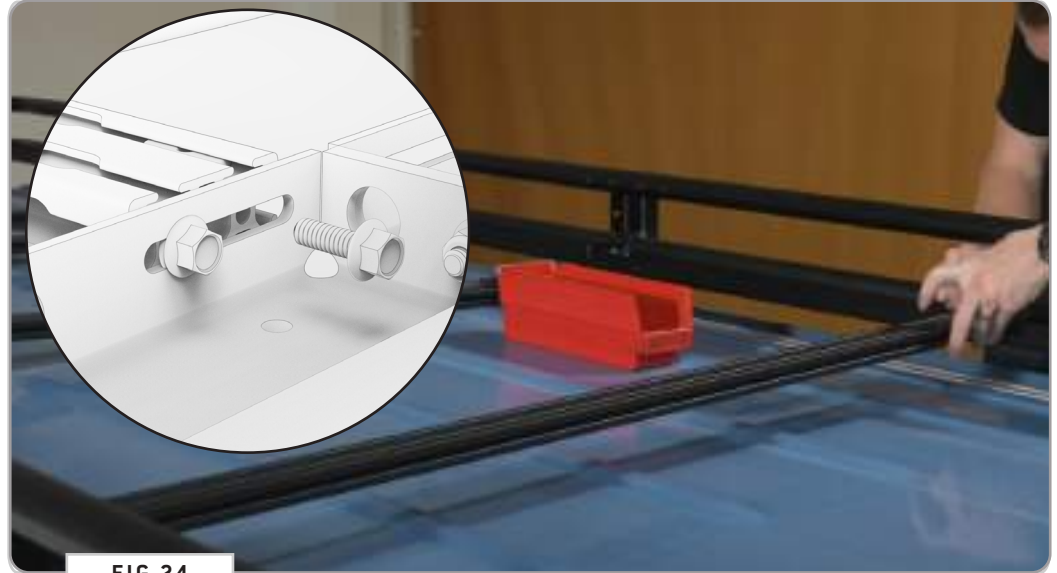
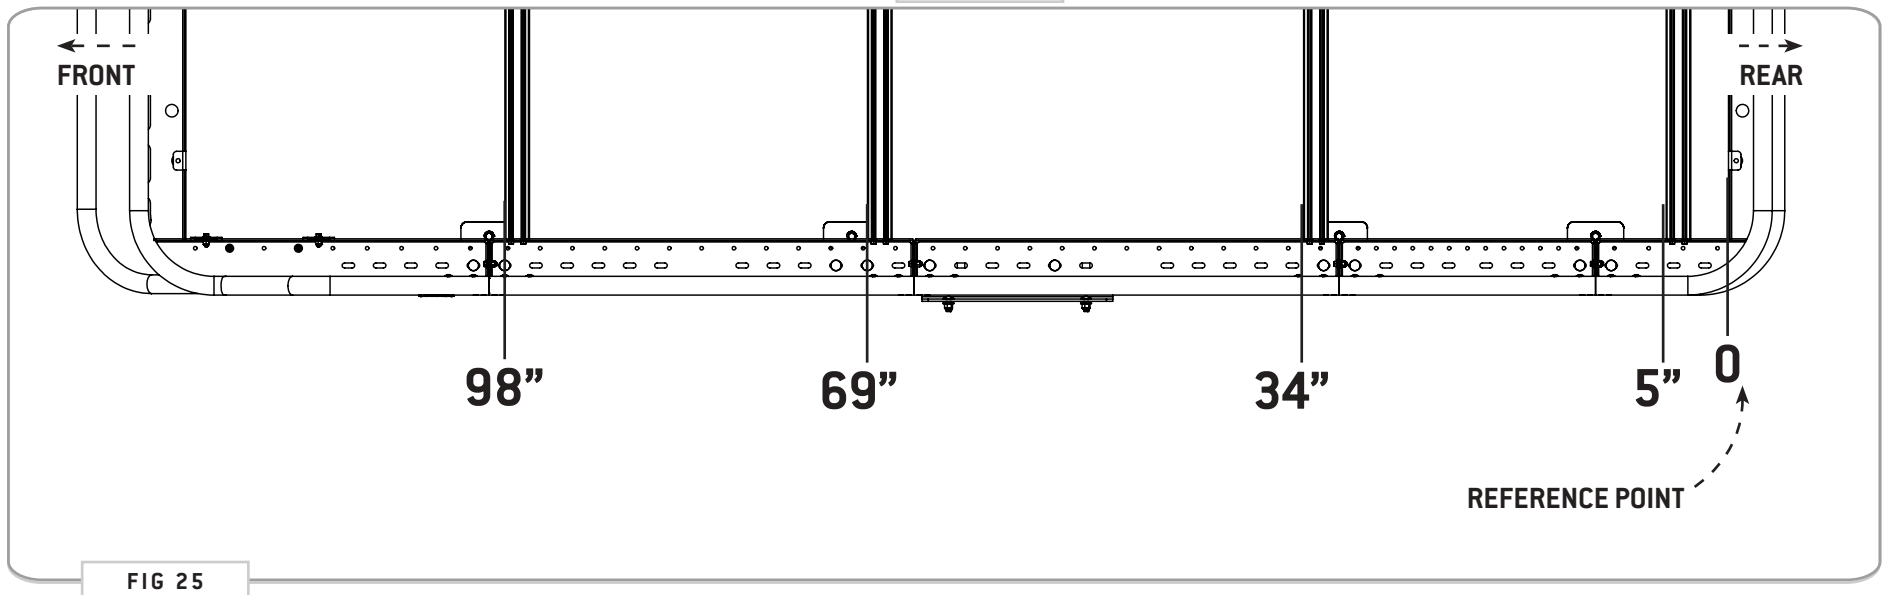

FIG 24
FIG 25
**10.1 Attach Crossbars:** Using (4ea) 1/4-20 Flanged Hex Bolts with Loctite (FIG 24), attach Crossbars to the rack in the locations shown in FIG 25. Be sure to measure both sides to ensure that the crossbars are square.